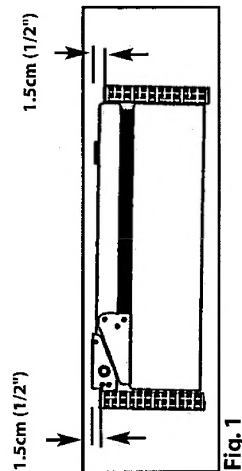

Fig. 1
2. Insert the appliance in the cavity of the unit until the external metal of the hinges projects by approx. 0.5mm and ensure that on the opposite side the external metal of the brackets also projects by approx. 1.5cm (1/2") (see Fig. 1)